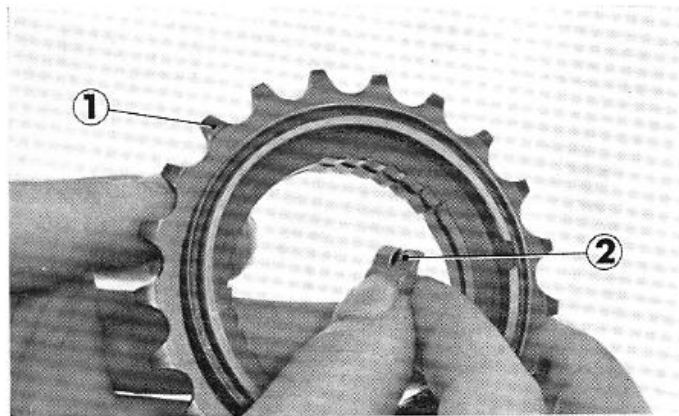

Fig. 4-20 ① Free wheel sprocket
1. Check for wear of the internal teeth on the free wheel sprocket. (Fig. 4-20)